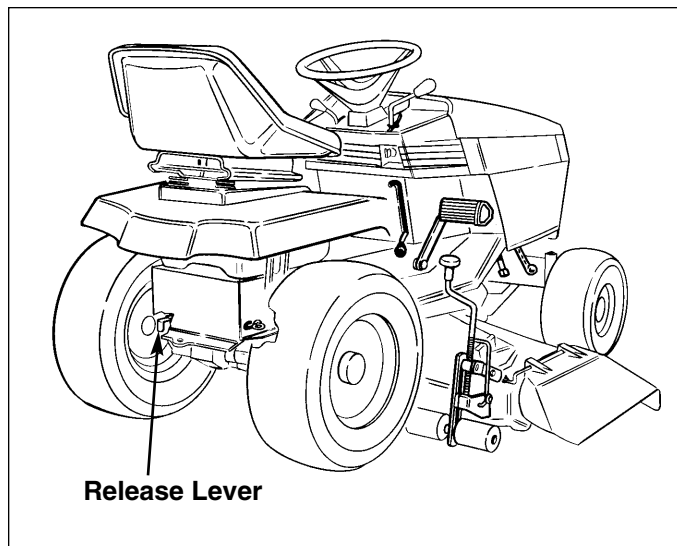

Figure 14. Release Lever
2. Place the hydro release lever (A, Figure 14) in the "PUSH" position by pulling rearward on the lever. The lever is located under the rear left-hand corner of the frame.
6. Place the hydro release lever (A) in the "DRIVE" position by pushing lever fully forward.